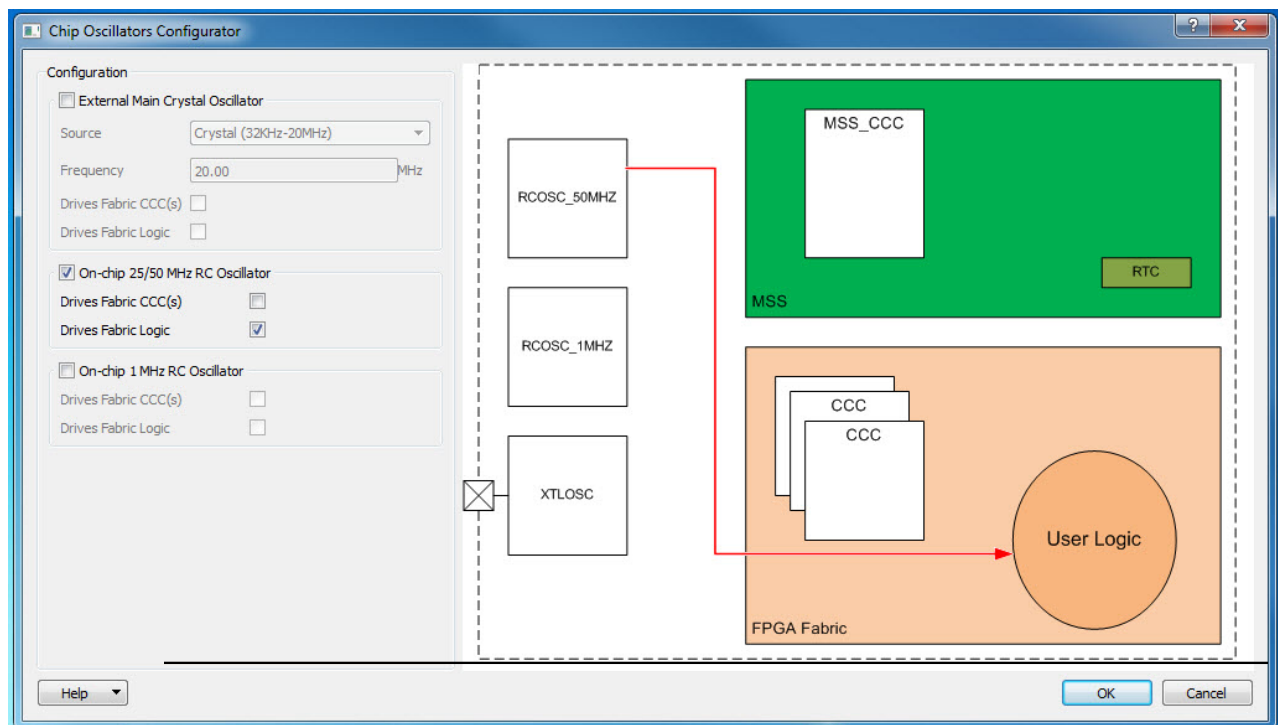

Figure 42 • Chip Oscillators Configurator
2. Configure this core such that the oscillator drives the FPGA fabric, as shown in Figure 42 below.